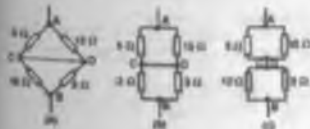

Figure 13.34
- (viii) In Fig. 13.34(a), to find the equivalent resistance across AB the circuit may be redrawn as in Figs. 13.34(b) and (c). From Fig. 13.34(c), the equivalent resistance across